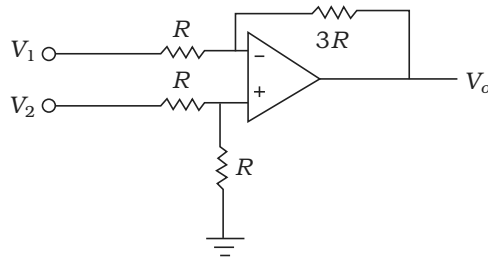

Fig. 1
- (ix) The value of V_o for the circuit in Fig. 1 is given by